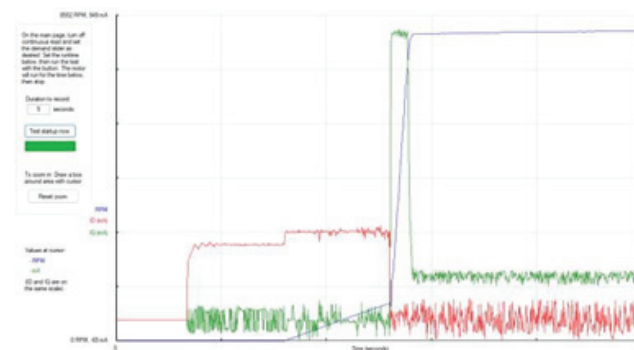

Figure 21: K_i Instabilities—GUI Plot (left) and Phase Current Plot (right)
- When K_i is too high, a ripple is observed in the D current, as shown for $K_p = 2$, $K_i = 8$ in Figure 21.